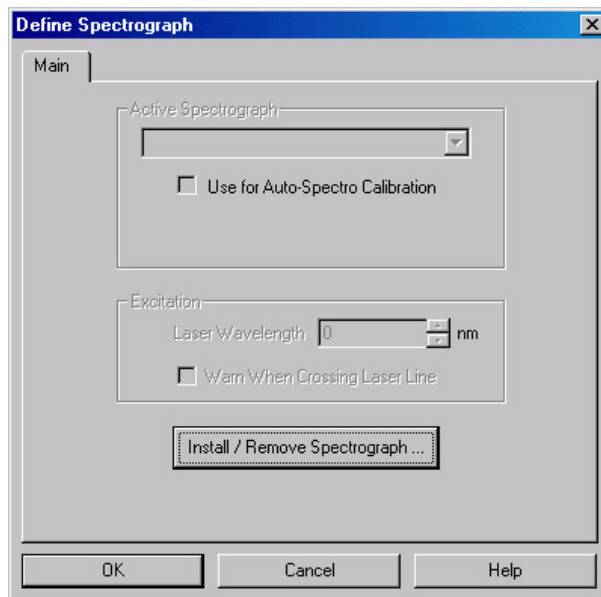

Figure 21. Define Spectrograph dialog
4. Select **Define** on the Spectrograph menu (Figure 20). This will open the Define Spectrograph dialog (Figure 21).